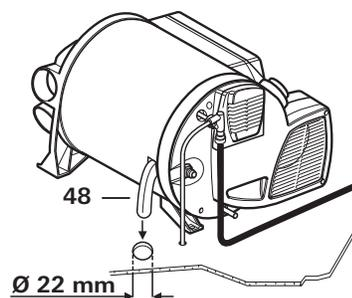

Fig. 25
**⚠** The discharge pipe (Fig. 25 - 48) is to be installed directly to the outside at a position protected against splash water (apply splash guard, if necessary).